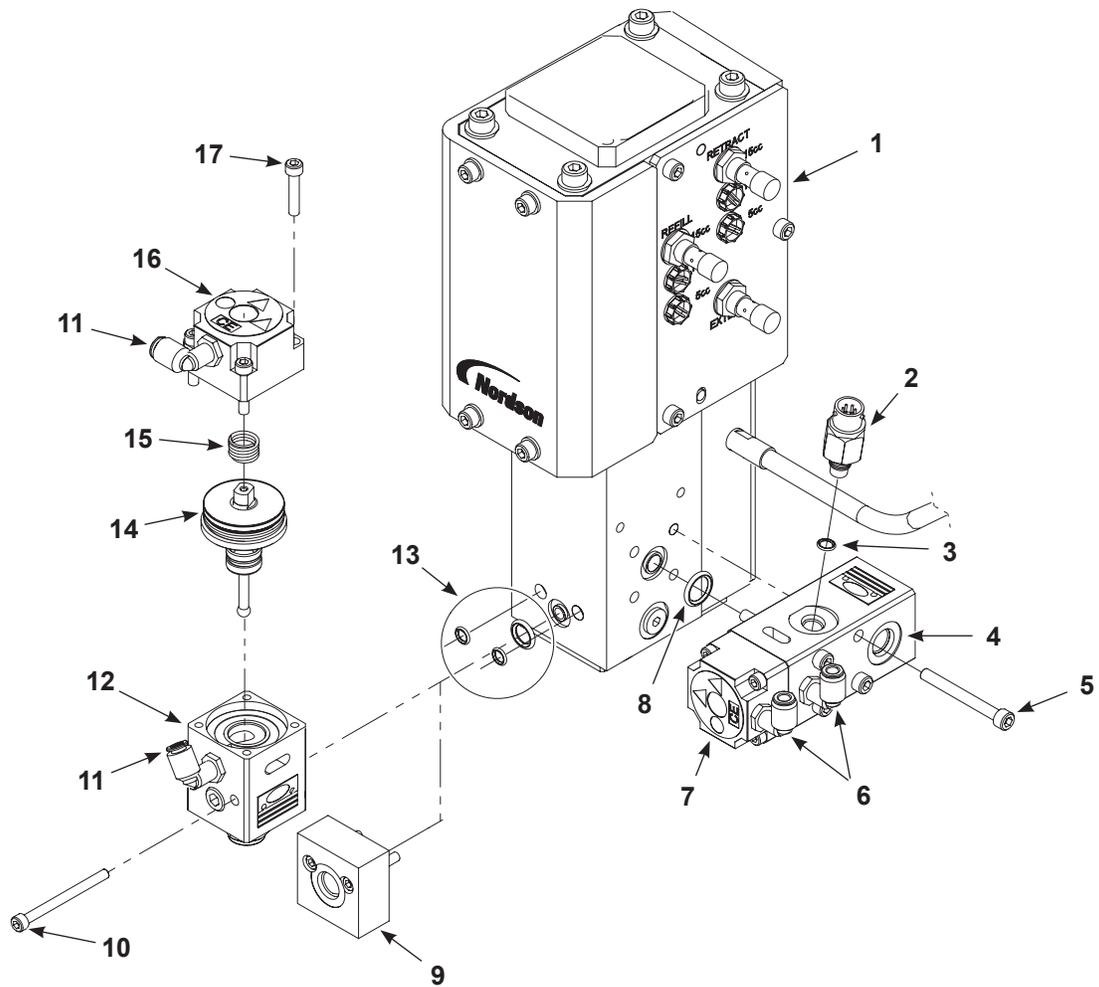

Figure 17 Inlet and Outlet Valve Repair
See Figure 17 and use the following procedures to make repairs to the hydraulic section.
1. See Figure 17. Remove the screws (17) securing the air cylinder cap (16) to the valve body (12). Remove the spring (15) from the valve body.
2. Using a small screwdriver, remove the packing cartridge (14) from the valve body (12).
3. Install the new packing cartridge (14) into the valve body (12).
4. Install the spring (15) onto the packing cartridge (14).
5. Install the air cylinder cap (16) using screws (17). Tighten the screws to 8.5-9 N•m (75-80 in.-lb).
See Figure 17 and use the following procedure to replace the outlet valve.
See Figure 17 and use the following procedure to replace the inlet valve.
1. See Figure 17. Disconnect the cable from the pressure transducer (2).
2. Remove the pressure transducer (2) from the inlet valve (7).
3. Lubricate the pressure transducer O-ring (3) with TFE grease. Install the pressure transducer (2) into the inlet valve (7) and tighten to 5-5.6 N•m (45-50 in.-lb).
4. Connect the cable to pressure transducer (2).